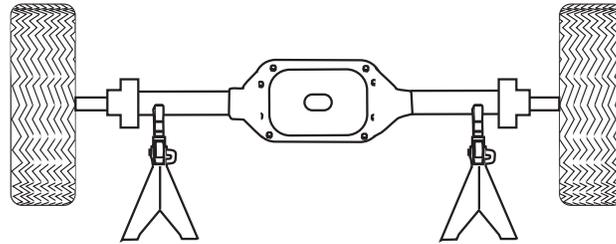

fig. 1
1. Jack up rear of vehicle or raise on hoist. Support frame with safety stands (fig. 1).